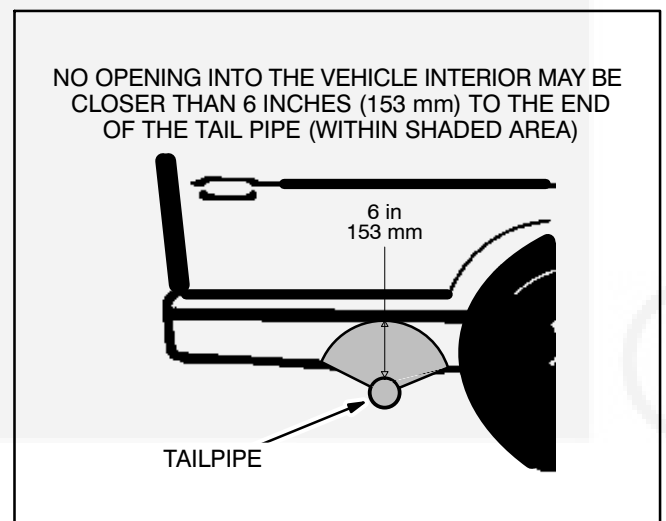
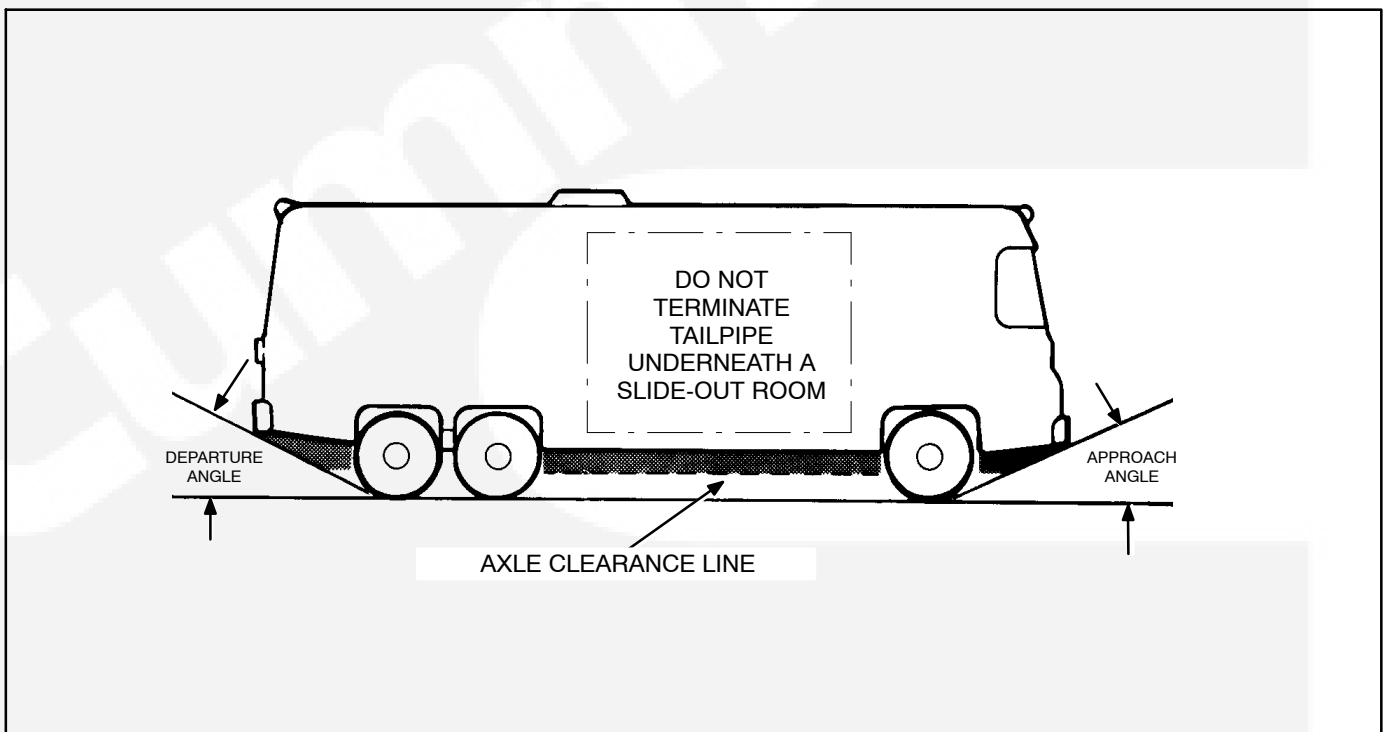

FIGURE 10. MINIMUM DISTANCES TO OPENINGS
FIGURE 11. APPROACH AND DEPARTURE ANGLES AND AXLE CLEARANCE LINE
⚠️ WARNING *EXHAUST GAS IS DEADLY! Keep exhaust gases from entering the vehicle. Do not terminate the exhaust tailpipe underneath the vehicle or closer than specified to openings into the vehicle (Figure 10) or route it such that it is likely to be damaged (Figure 11). Use approved materials and parts only.*
Note: Do not terminate the tailpipe underneath a slide-out room (Figure 11), unless the bottom of the slide-out, including skirts and moldings, is at least 3 feet above the end of the tailpipe.
9. Do not terminate the tailpipe such that it is closer than 6 inches (153 mm) to any opening into the vehicle interior (door, window, vent). See Figure 10.
11. Route the tailpipe such that it will not likely be struck when the vehicle is moving. At least keep it out of the approach and departure angles of the vehicle and above the axle clearance line (Figure 11).